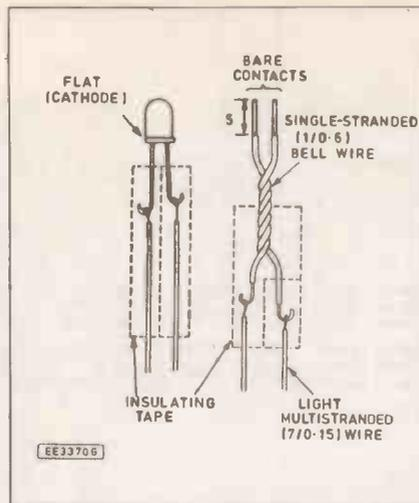

Fig. 10. Connections to D3 and the touch contacts.
There is only just enough space behind the control panel to hold the microswitch, the l.e.d., the contact wires and the lamp, so this part of the assembly needs to be well thought out at all stages. First attach leads about 120mm long to the l.e.d., lamp and microswitch and twist the contact wires together (Fig. 10). Use multi-stranded insulated wire of as light a gauge as you can obtain. We used 7/0.15 (7 strands, 0.15 mm diameter) P.V.C. covered cable, with external diameter 1mm. Make sure that the anode and cathode leads of the l.e.d. are identifiable, either by using wire of different colours or by marking their free ends. Check that the microswitch leads are attached to the correct pair of terminals, 'common' (C) and 'normally closed' (NC).